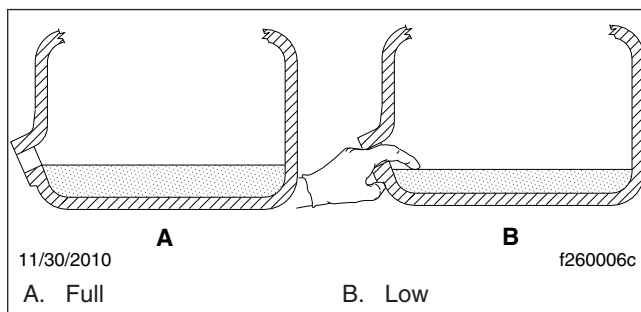

Fig. 11, Checking Transmission Fluid Level
6. Add fluid until it is level with the lower edge of the fill opening; see Fig. 11. See Table 4 for approved transmission lubricants, and Table 5 for transmission lubricant capacities.
2. Using your finger or a bent pipe cleaner, see if the fluid is level with the fill opening. See Fig. 11.